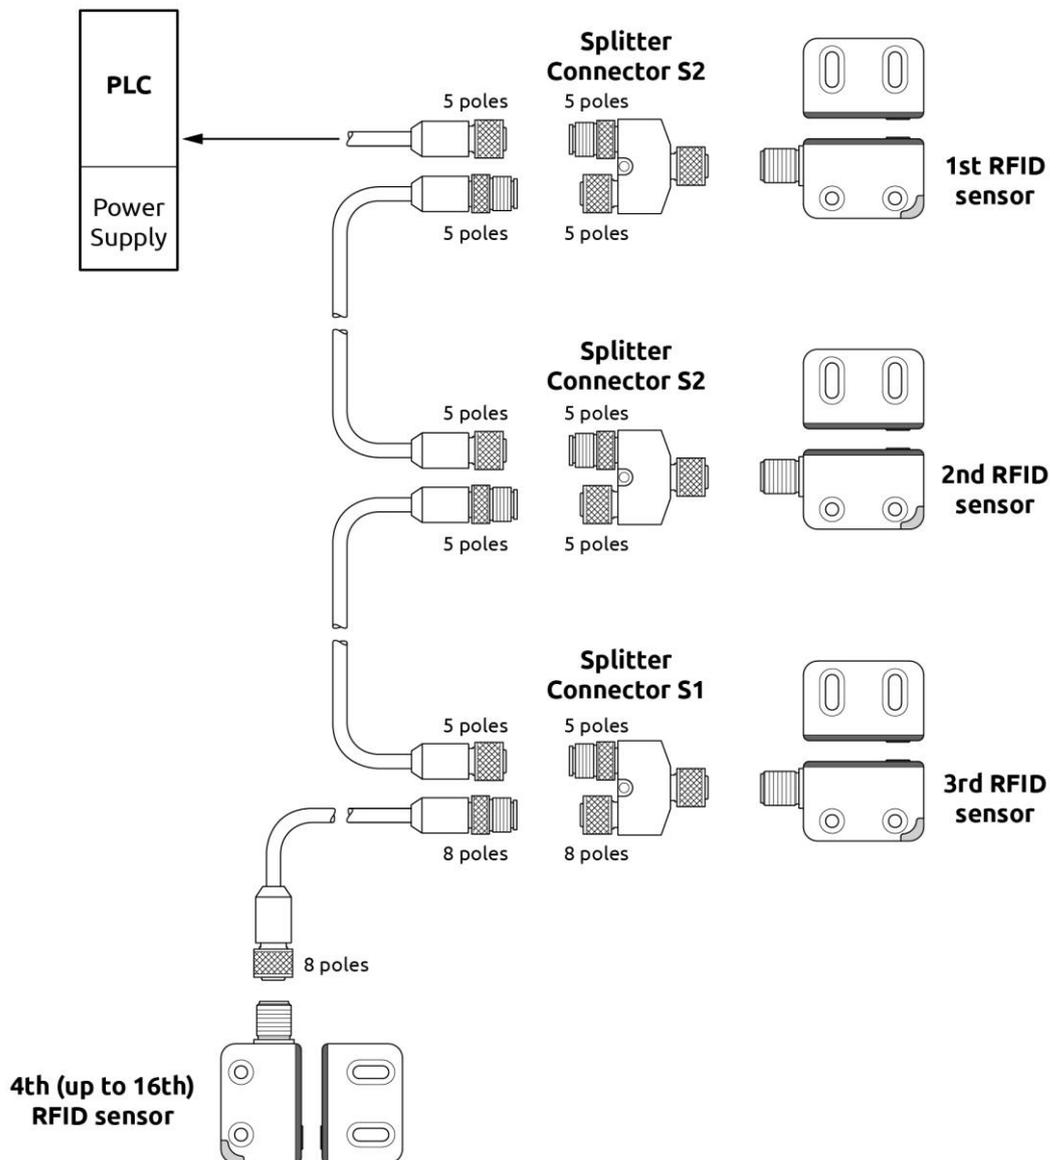
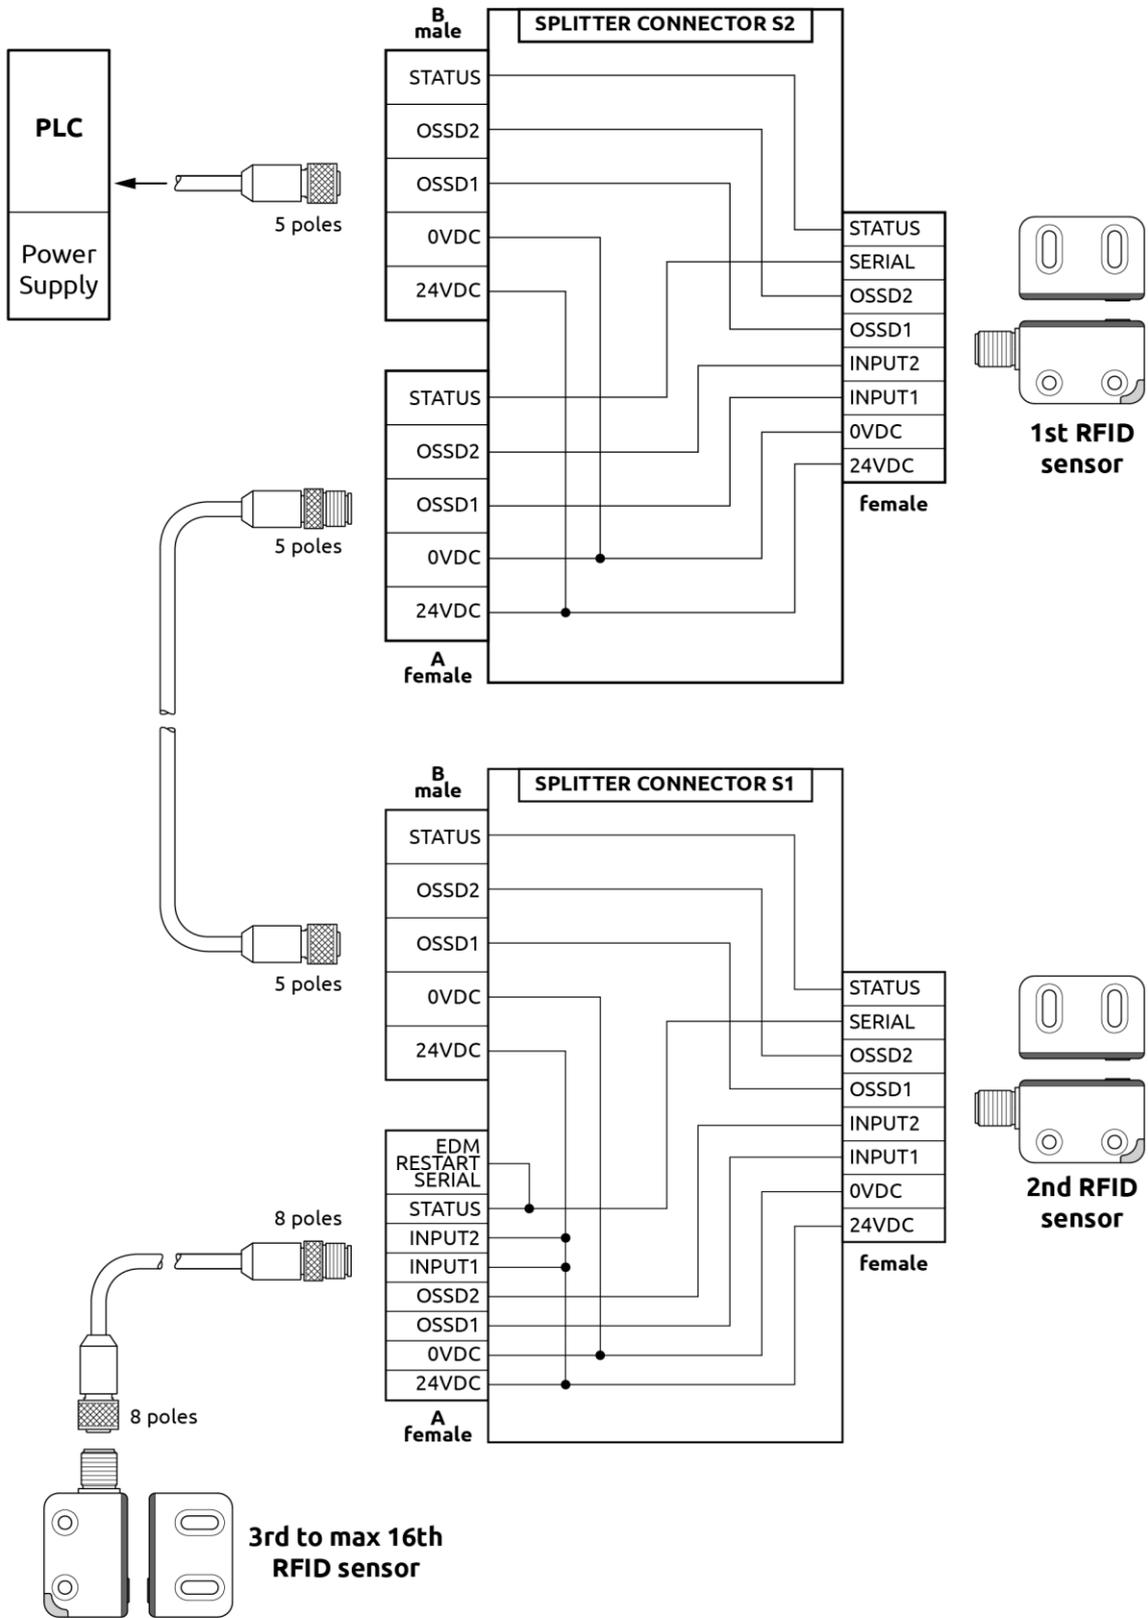

Figure 7 - Serial mode (Automatic)
Figure 10 - Serial mode wiring (Automatic)
- ➔ For a quicker and safe connection, Reer recommends using its splitter connectors as showed in Figure 7 and Figure 10.